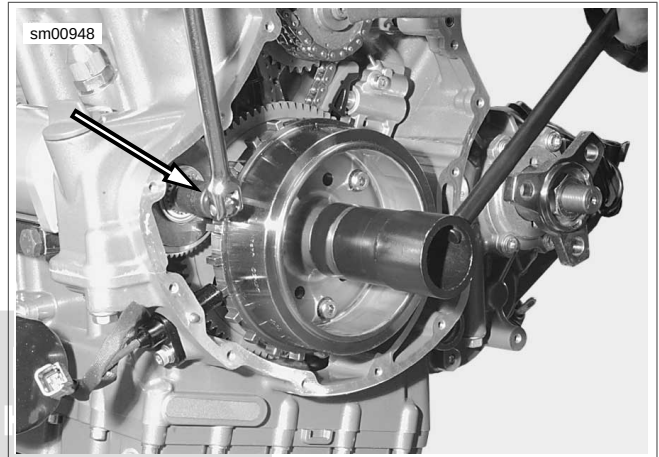

Figure 3-15. Starter Limiter Fastener
11. See Figure 3-15. Hold 36 mm rotor nut with CRANKSHAFT ROTATING WRENCH and loosen starter limiter fastener.
15. See Figure 3-15. Remove starter limiter fastener and starter limiter gear assembly.